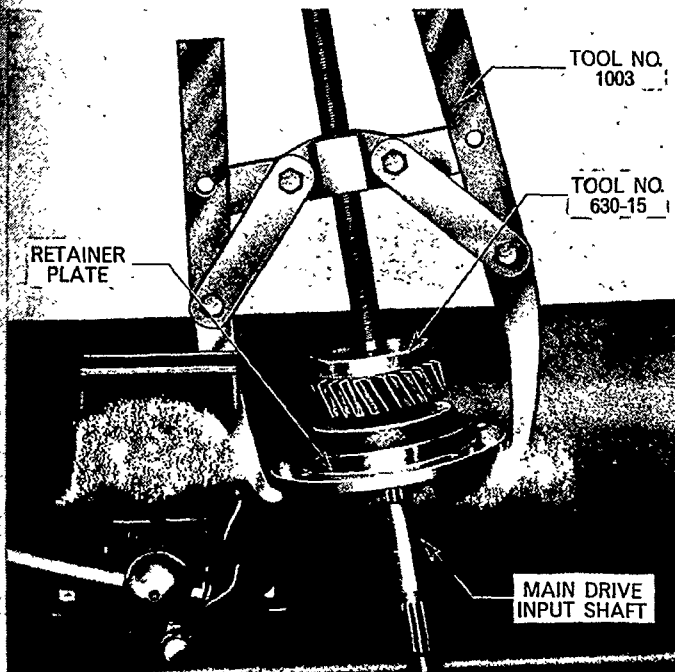

Figure 22
8. Pass the main drive input shaft through the retainer plate and bearing, Figure 22, and press the shaft into position using Tools Nos. 1003, 630-15.